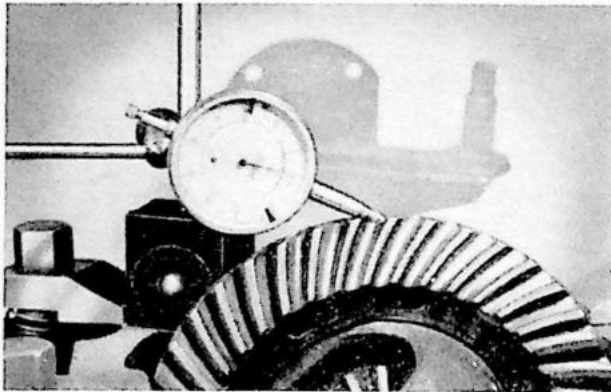

Fig. 41. Measuring backlash.
13. Check the backlash as shown in fig. 41. This should agree with the value given in the specifications or with the value stamped on the ring gear. This should be at least 0.10 mm (0.004").